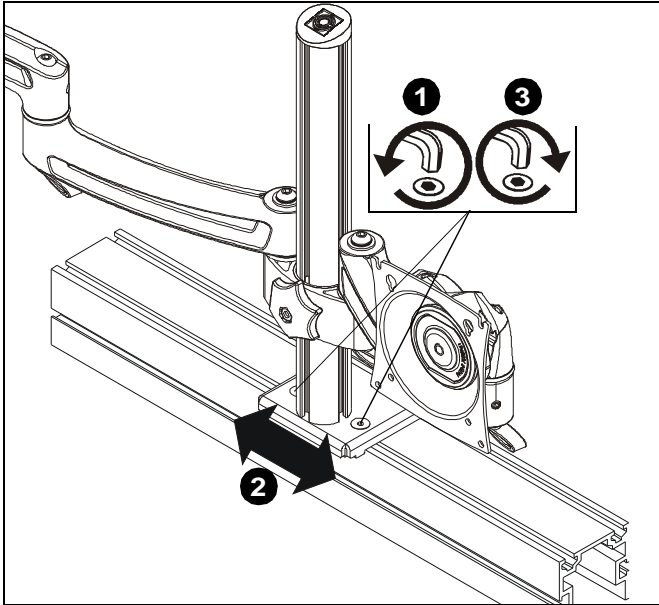

Figure 8
1. Loosen two #10-32 x 7/8" flat head cap screws (F). (See Figure 8)
2. Adjust lateral shift position as desired. (See Figure 8)
3. Tighten two #10-32 x 7/8" flat head cap screws (F). (See Figure 8)